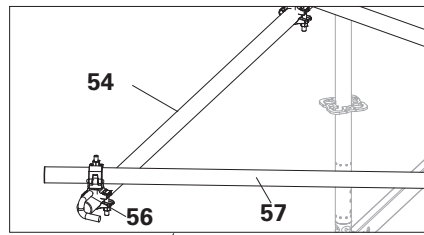

Fig. A4.05
3. Fix scaffold tubes (**57**) to the Wall Ties UWT 140 using swivel couplings (**56**). (Fig. A4.05)